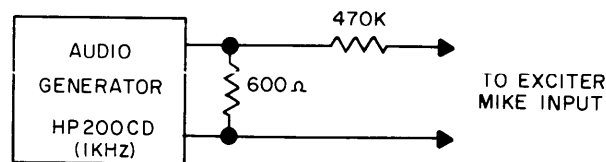
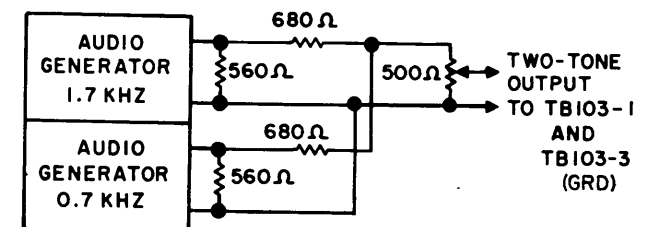

Figure 5-4. Audio and AM Amplifier Test Setup
Figure 5-5. Sideband Generator Z105 Test Setup
(2) Using an oscilloscope, measure 1.666 MHz input at J103-15. Input level shall be 0.3 volt peak-to-peak.
(3) Connect oscilloscope probe to collector of transistor Q1 and adjust transformer T1 for maximum output (approximately 0.5 volt peak-to-peak).
(4) Set the following front panel controls to minimum levels: RF OUTPUT, USB and LSB, MIKE GAIN and VOX GAIN.
- (5) Set MODE switch to USB position.
- (6) Set EXCITER switch to ON.
- (7) Set CARR SUPPR switch to variable, and carrier suppression control to minimum (fully counterclockwise).
- (8) Connect oscilloscope probe to cathode of diode CR1 (junction of CR1 and resistor R10). Adjust transformer T2 for maximum output.
- (9) Adjust potentiometer R6 for minimum 1.1.666 MHz signal. Repeat steps 8 and 9 until maximum tuning is obtained.
- (10) Connect oscilloscope on hot side of resistor R23 and adjust T3 for maximum output.
- (11) Connect oscilloscope to J103-A and adjust transformers T2 through T4 for maximum output. Output shall be approximately 0.7 volt peak-to-peak with a 250 kHz input of approximately 11 mv rms.
f. UPPER SIDEBAND GENERATOR Z105. (See figures 5-4 and 5-5.) Align upper sideband generator Z105 as follows:
- (1) Connect sideband generator Z105 into an extender cord.
- (2) Connect audio generator to Exciter MIKE input as shown in figure 5-4.
- (3) Adjust audio generator to a 1 kHz, 1.4 mv rms, measured at J105-D.
- (4) Connect meter to J105-A and adjust potentiometer R8 for 50 mv rms. Adjust USB meter GAIN control to obtain an indication of 1.0 on MONITOR meter.
- (5) Connect two-tone Audio generator (1.7 kHz and 0.7 kHz) to Exciter terminal board TB103 as shown in figure 5-5. Connect jumper between TB103-3 (ground) and TB103-4.
- (6) Adjust audio generator tone levels to 0.078 volt.
- (7) Set USB GAIN control to maximum counterclockwise position. MONITOR meter shall indicate 1 minimum.
- (8) Connect meter to J105-15 (250 kHz input). Input shall be 0.6 volt rms.
- (9) Set EXCITER switch to ON. Turn AGC potentiometer R56 fully clockwise.
- (10) Connect meter to base of transistor Q11 (R26) and adjust transformer T2 for maximum output.
h. AM AMPLIFIER Z108. (See figure 5-4.) Align AM amplifier Z108 as follows:
(1) Connect oscilloscope between J108-L and ground. Oscilloscope shall indicate 250 kHz signal 1.5 volts peak-to-peak.
(2) Connect audio generator to Exciter MIKE input as shown in figure 5-4.
(3) Adjust audio generator input for 1 kHz at 40 mv rms.
(4) Set MODE switch to either USB or LSB; set METER switch to the corresponding position (USB or LSB).
(5) Using Exciter MIKE GAIN control, set mike gain for 2.8 mv at J108-15; MONITOR meter should indicate 0.7.
(6) Connect oscilloscope to hot side of R13 and adjust transformer T1 for maximum output.
(7) Connect Ballantine meter between J108-E and ground; adjust potentiometer R15 for 6.2 mv rms.
k. **RF OUTPUT Z115.** (See figure 5-5.) Align the rf output as follows: